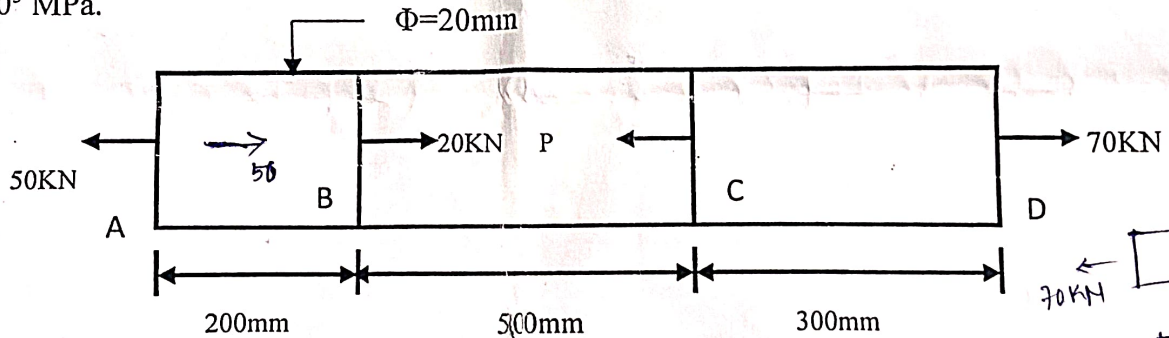

Fig.1
- Find the force P acting at C in the bar shown in Fig. 1. Find the extension of the bar if $E = 2 \times 10^5$ MPa. [4]